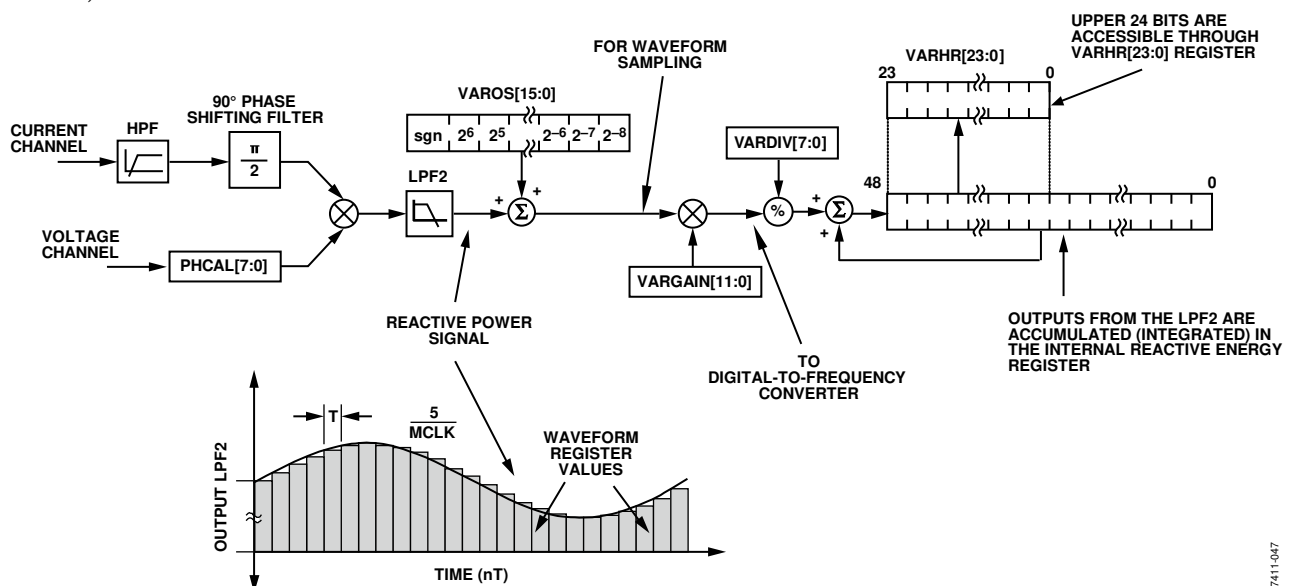

Figure 72. Reactive Energy Calculation
The instantaneous reactive power signal, $q(t)$, is generated by multiplying the voltage and current channels. In this case, the phase of the current channel is shifted by 90°. The dc component of the instantaneous reactive power signal is then extracted by a low-pass filter to obtain the reactive power information (see Figure 72).
Figure 72 shows the signal processing chain for the ADE5169/ADE5569 reactive power calculation. As explained in the Reactive Power Calculation (ADE5169/ADE5569) section, the reactive power is calculated by applying a low-pass filter to the instantaneous reactive power signal. Note that, when reading the waveform samples from the output of LPF2, the gain of the reactive energy can be adjusted by using the multiplier and by writing a twos complement, 12-bit word to the var gain register (VARGAIN, Address 0x1E[11:0]). Equation 23 shows how the gain adjustment is related to the contents of the var gain register.
The ADE5169/ADE5569 also incorporate a reactive power offset register (VAROS, Address 0x21). This is a signed, twos complement, 16-bit register that can be used to remove offsets in the reactive power calculation (see Figure 72). An offset can exist in the reactive power calculation due to crosstalk between channels on the PCB or in the IC itself. The offset calibration allows the contents of the reactive power register to be maintained at 0 when no power is being consumed.
The discrete time sample period (T) for the accumulation register in the ADE5169/ADE5569 is 1.22 μs (5/MCLK). As well as calculating the energy, this integration removes any sinusoidal components that may be in the active power signal. Figure 72 shows this discrete time integration or accumulation. The reactive power signal in the waveform register is continuously added to the internal reactive energy register.
As shown in Figure 72, the reactive power signal is accumulated in an internal 49-bit, signed register. The reactive power signal can be read from the waveform register by setting the WAVMODE register (Address 0x0D) and setting the WFSM bit (Bit 5) in the Interrupt Enable 3 SFR (MIRQENH, Address 0xDB). Like the current and voltage channel waveform sampling modes, the waveform data is available at sample rates of 25.6 kSPS, 12.8 kSPS, 6.4 kSPS, and 3.2 kSPS.